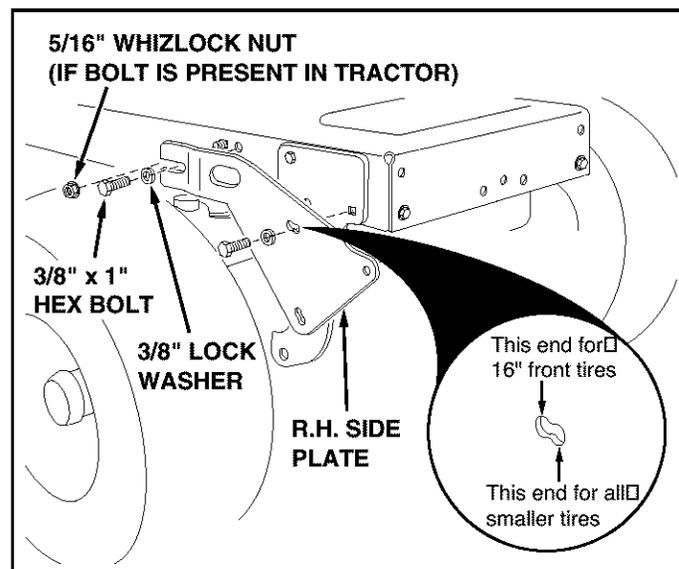

FIGURE 2 RIGHT SIDE VIEW
- Assemble the R.H. Side Plate (marked "R") to the two now empty holes in the side of the tractor frame. Use two 3/8" x 1" hex bolts and 3/8" lock washers as shown in figure 2. Repeat for the L.H. side.